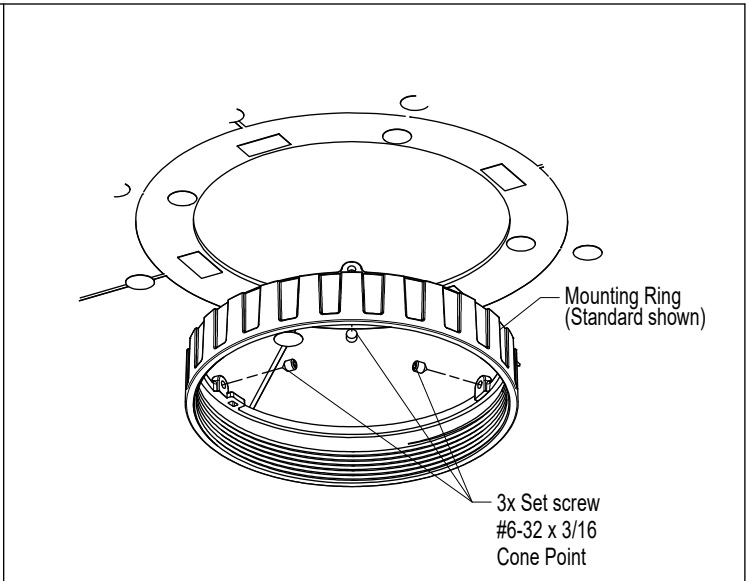

FIG 3.2 Install Mounting Ring
- STEP 5** Insert Mounting Ring lip fully into Housing & fasten with 3x Set Screws using allen key supplied - **Do Not overtighten**. Mounting Ring can be installed with or without ceiling in place - FIG 3.2.